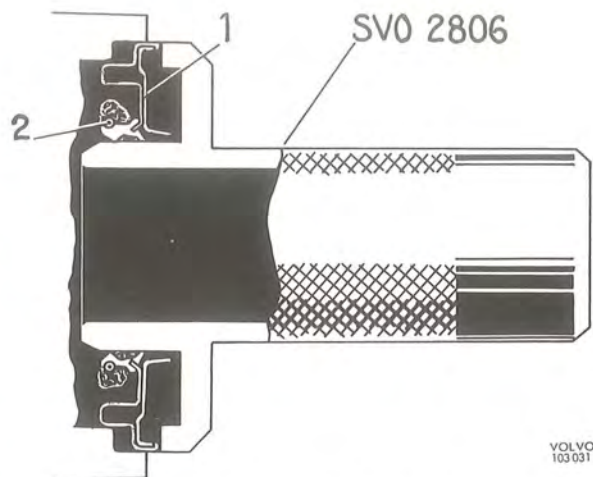

Fig. 4-137. Fitting the oil seal
3. Fit the new oil seal with tool SVO 2806. When fitting the oil seal, lubricate the seal lips with grease. At the same time apply a layer of grease to the spring coil. See Fig. 4-137. This last-mentioned measure is made to prevent the spring coil from jumping out during fitting.